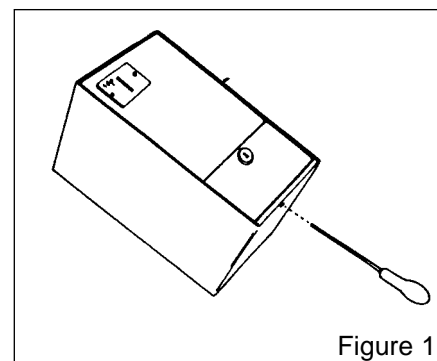

Figure 1
2. Note a recessed screw on the underside of the front panel. Using a No.1 9-inch pozidrive screwdriver remove this screw – access through the hole in the base of the case. See Figure 1.